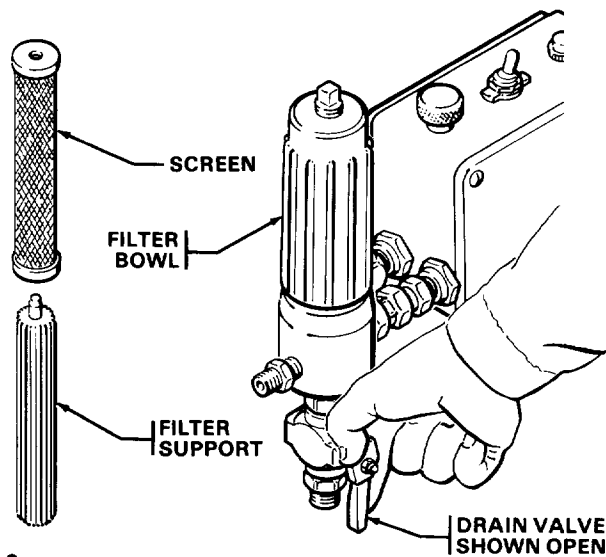

Fig 9
10. Unplug the power supply cord. Open the drain valve and leave open until you are ready to use the sprayer again. Unscrew the filter bowl and reinstall the clean screen. Be sure the screen and support are installed as shown in Fig 9.